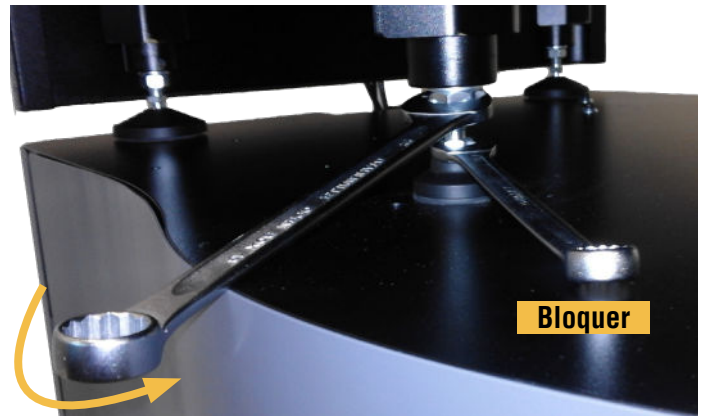

Figure 7
3) Once the right configuration has been found, tighten foot 4, check that the spirit level is correct and lock all the other feet in position (from 0 to 4) using a 13 mm spanner and a 19 mm spanner (Figure 7).